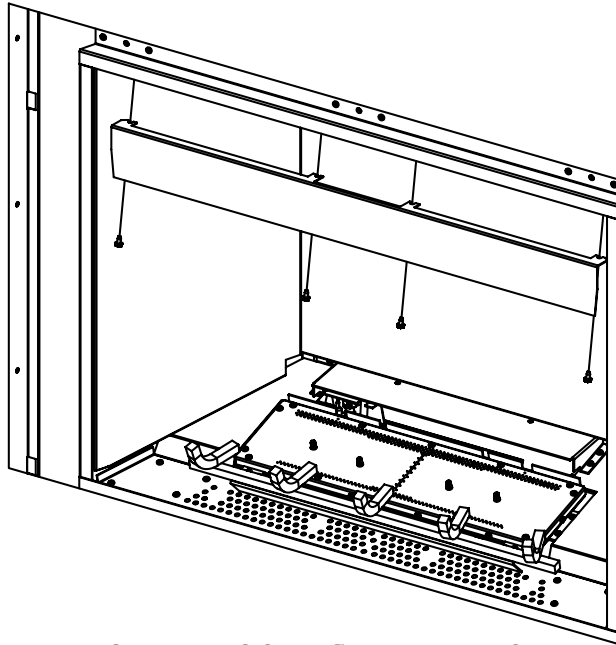

Figure 72: Light Deflector Removal
Step 2. Remove light deflector by loosening four retaining screws with a 5/16 socket (see Figure 72).